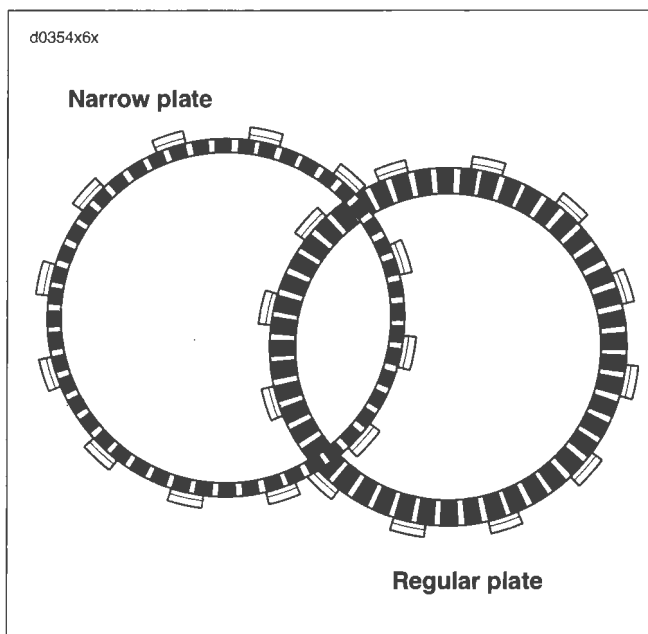

Figure 6-24. Friction Plates
1. See Figure 6-24. Install the narrow friction plate on the clutch hub. Engage tabs on plate with slots in clutch shell.